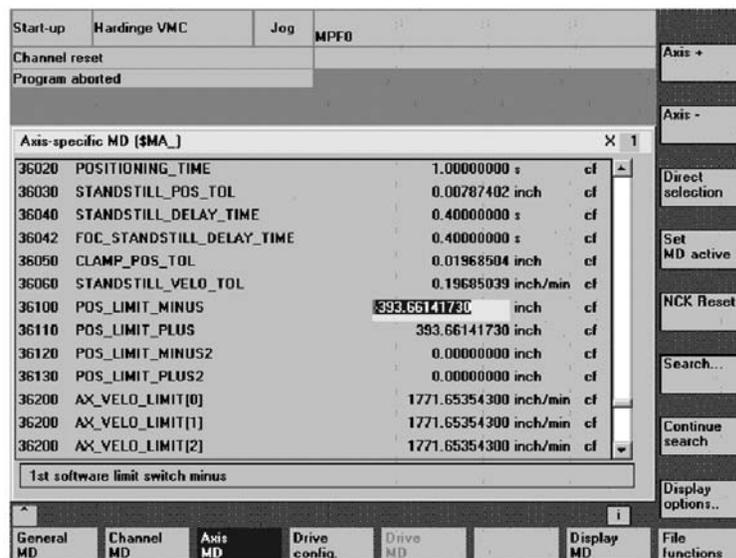

Figure 5.12 - Axis Software Limit Machine Data
9. Press the vertical  soft key to activate the modified value. (Refer to Figure 5.12)